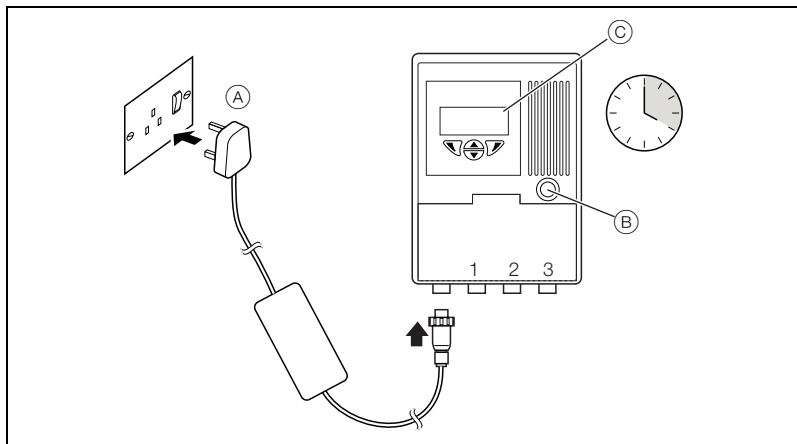

Fig. 6.1 Recharging the CalMaster2
1. Plug in the universal mains adaptor (A) – see Fig. 6.1.
2. Press the 'On' button (B). Failure to do this results in slow and partial charging of the battery.
3. Correct connection is confirmed by the mains icon in the top right corner of the display (C).
4. The display shows the normal start-up screen (see Fig. 6.1). After a short time period with no activity, this screen times out. If at this stage the CalMaster 2 determines that a fast-charge is necessary, the display shows the text 'Fast Charging x.xV', otherwise, the display switches off (enters sleep mode) immediately.
5. If fast-charging mode was engaged, once the required battery voltage is reached the unit switches fast-charge off automatically and the display switches off. Pressing the 'On' button (B) starts the CalMaster 2.
7. CalMaster 2 can be used during charging by pressing the button labelled 'Stop' on the display, followed by the 'On' button (B). Leave the charger connected. In this mode, charge times are extended.